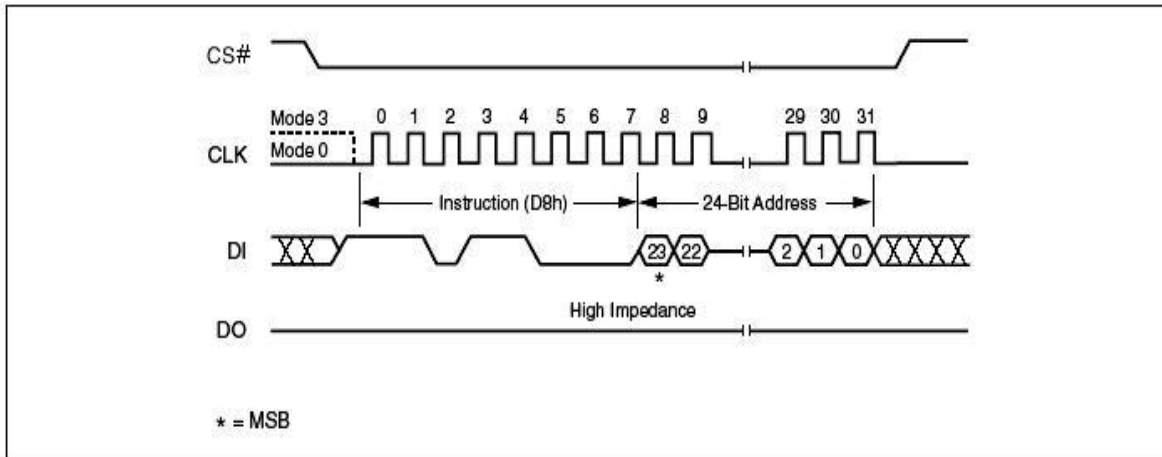

Figure 30. 64K Block Erase Instruction Sequence Diagram
The instruction sequence is shown in Figure 30. Chip Select (CS#) must be driven High after the eighth bit of the last address byte has been latched in, otherwise the Block Erase (BE) instruction is not executed. As